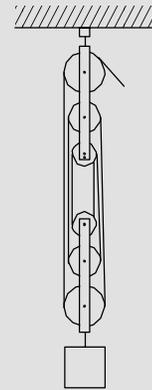

Figure 19.2
**Problem 5.** A pulley system consists of two blocks, each containing three pulleys and connected as shown in Figure 19.2. An effort of 400 N is required to raise a load of 1500 N. Determine (a) the force ratio (b) the movement ratio (c) the efficiency of the pulley system.